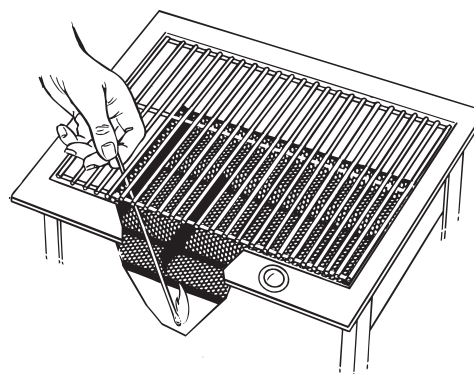

Figure 12 - Manual Lighting
**REMEMBER:** FOR SAFE MANUAL LIGHTING, PLACE A BURNING MATCH OR BUTANE LIGHTER BESIDE THE BURNER - THEN TURN ON THE GAS (Figure 12).